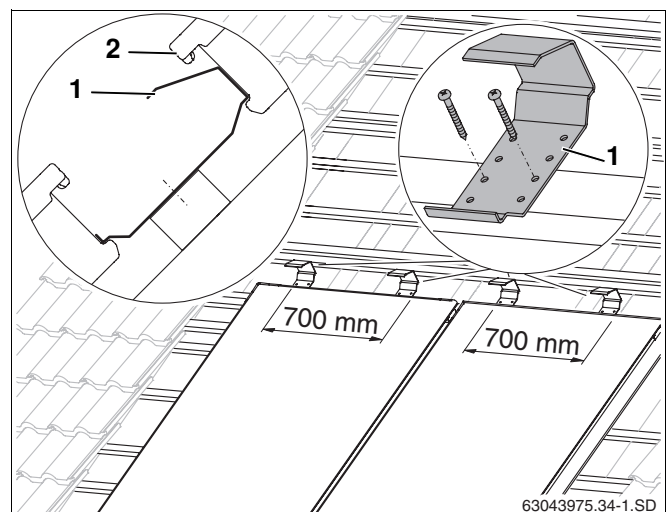

Fig. 31 Anti-slip protection devices for the second collector array
- Put two anti-slip protection devices (Fig. 31, **Item 1**) per collector, halfway along (700 mm apart) over the lower collector onto the fourth additional batten on the lower row, and fasten with two 4x40 screws.
- Allow the collectors in the upper row (Fig. 31, **Item 2**) to slide against the anti-slip protection devices and align with the lower row.